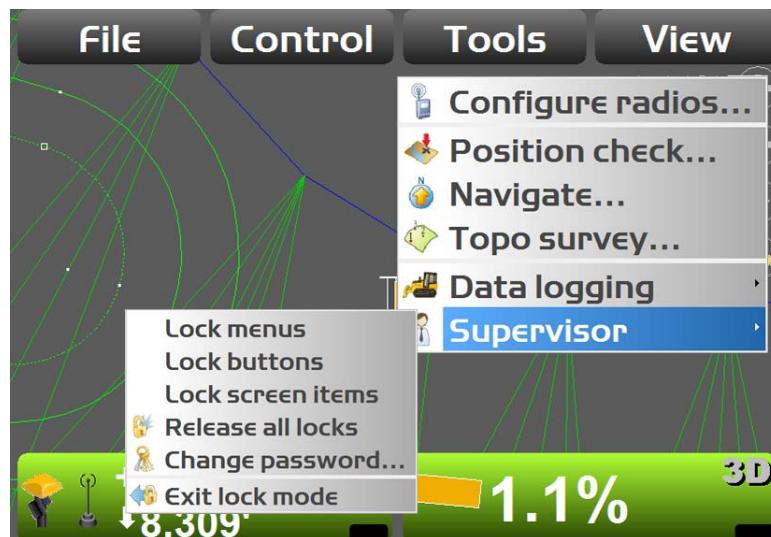

Figure 88: Supervisor Menu
4. Press the Power button on the display, then tap **Tools ▶ Supervisor** to access the supervisor menu (Figure 88).